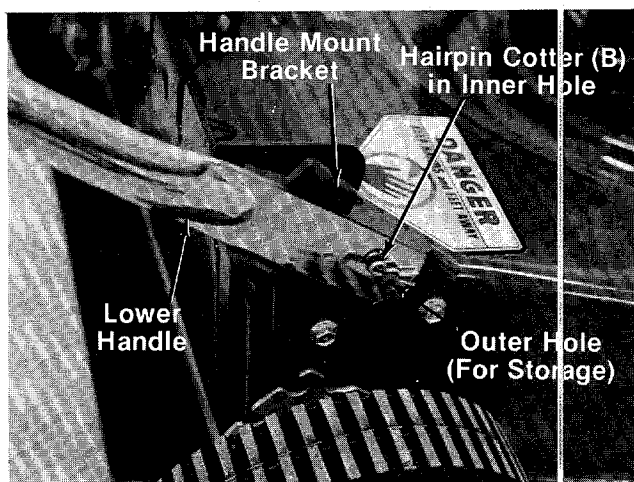

FIGURE 2.
- A (1) Rope Guide Bolt
- B (2) Hairpin Cotters
- C (2) Lock Washers 5/16" I.D.
- D (2) Hex Nuts 5/16-18 Thread
- E (1) Curved Head Carriage Bolt
- F (2) Cable Ties
- G (1) Ferrule
- H (1) Locking Ring
3. Attach the lower handle by placing the bottom holes in the lower handle over the weld pins on the handle mount brackets. Make certain the instruction label on the lower handle can be read from the operating position. Secure with hairpin cotters (B) in inner holes on weld pins. See figure 2.